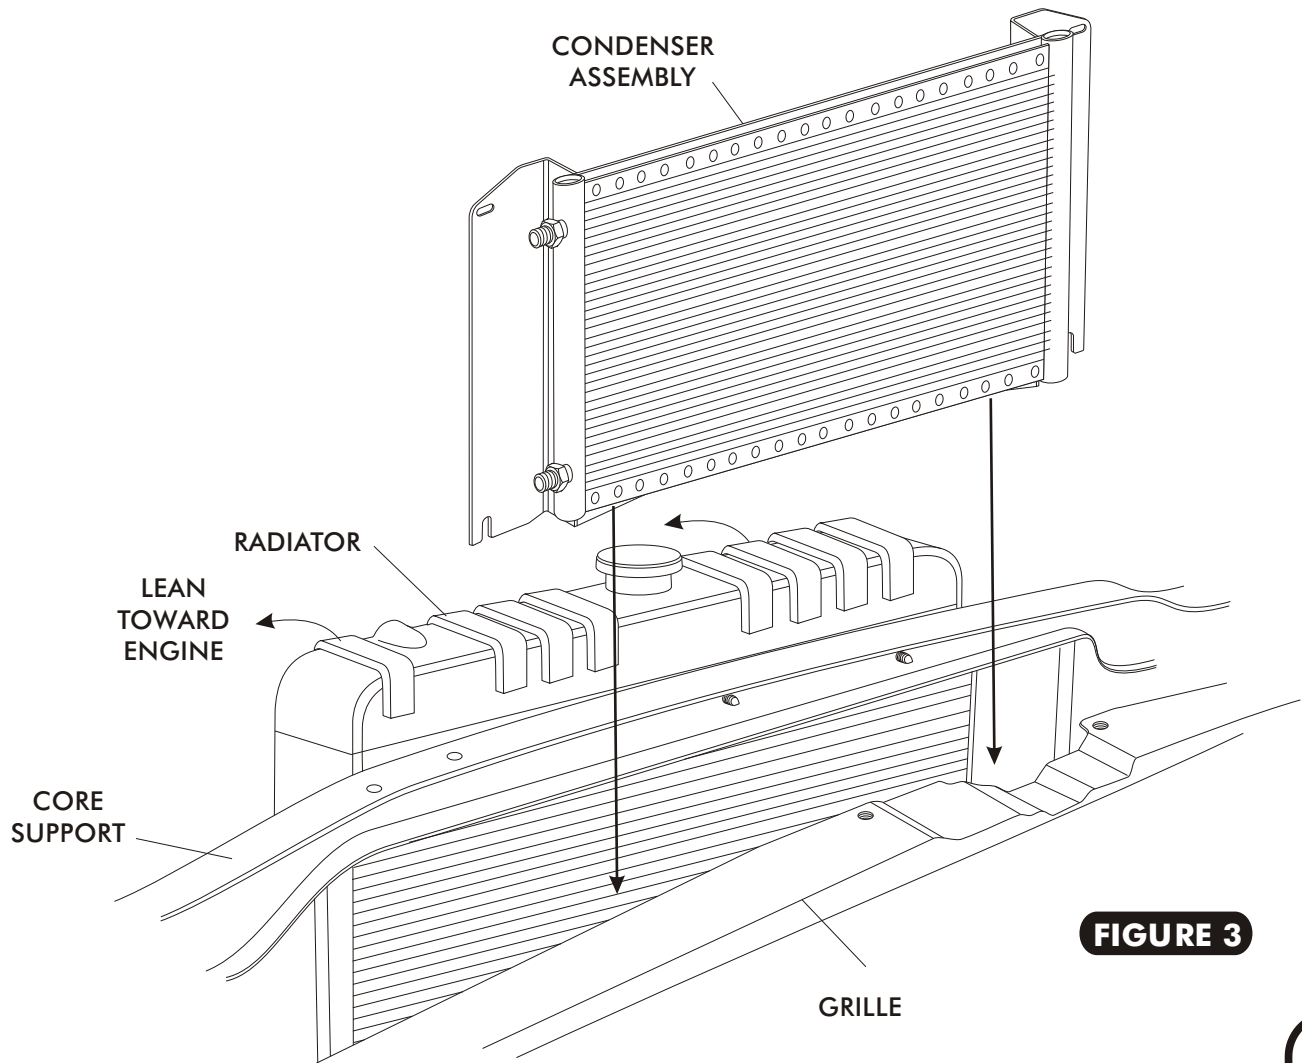

FIGURE 3
- REMOVE THE (4) RADIATOR MOUNTING BOLTS AND RETAIN.
- INSTALL THE CONDENSER ASSEMBLY BETWEEN THE GRILLE AND CORE SUPPORT AS SHOWN IN FIGURE 3 BELOW.